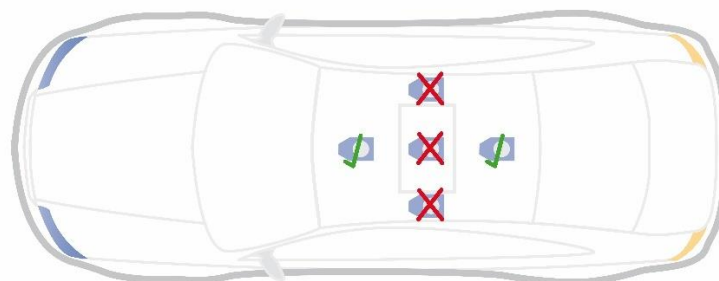

Figure 5 ADMA-Speed point of installation
- Mount the sensor unit in a suitable position (Figure 5) on the roof of the vehicle.